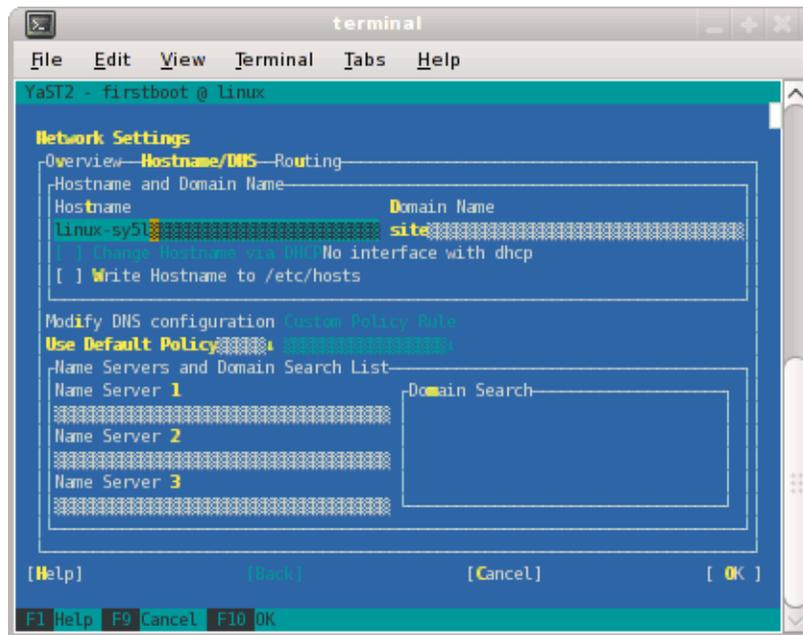

Figure 1-8 Network Settings Screen
9. At this point, you are back at the **Network Settings** screen as shown in Figure 1-8 on page 9. At this time, select **Hostname/DNS**. In this screen, you should enter your house/public network hostname and fully qualified domain names. In addition, any name servers for your house/public network should be supplied. Please select (ensure an x is in the box) for **Write hostname to /etc/hosts**. Do **not** select **OK** yet.